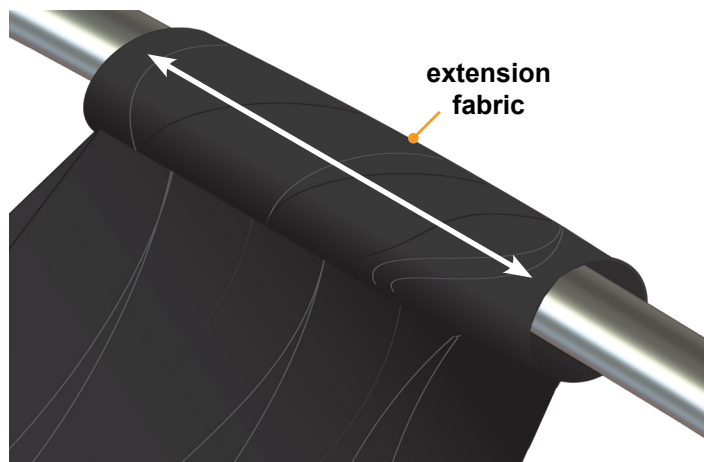

Fig.8
13. Spread the extension's fabric across the width of the tube (Fig.8).